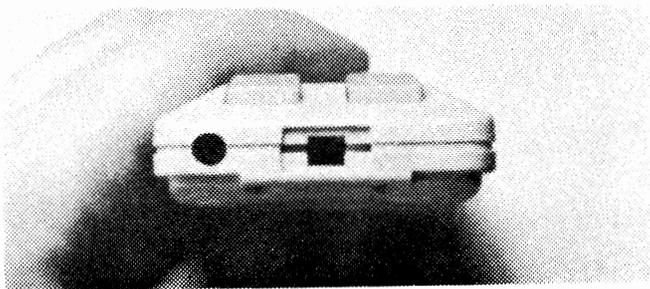

Figure 3
Step 6. The solder side of the cord-wire attachment to the PC board looks like Figure 3.
Step 8. Using a 1/4" drill bit and a variable-speed drill at a relatively slow speed, drill a hole in the front of the case, as shown in Figure 3. (Center the hole on the slot where the two case halves meet.) Do not use a high-speed drill to do this, or you'll have a melted plastic mouse-coffin on your hands!